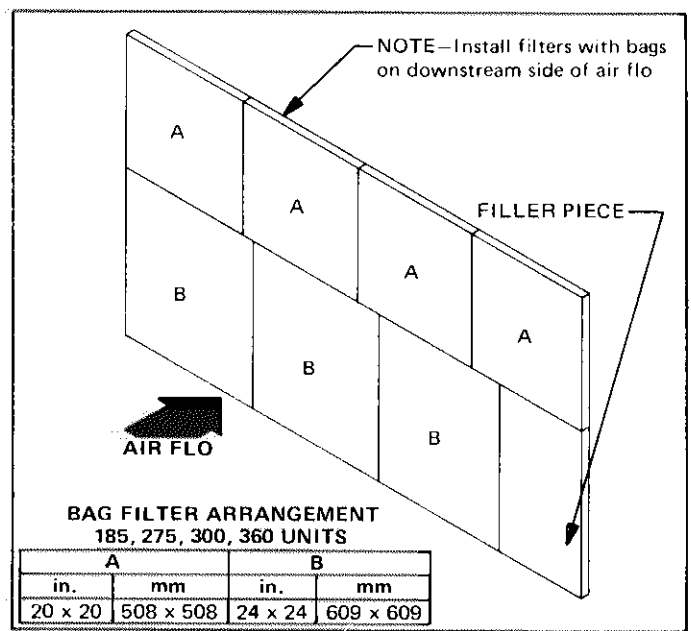
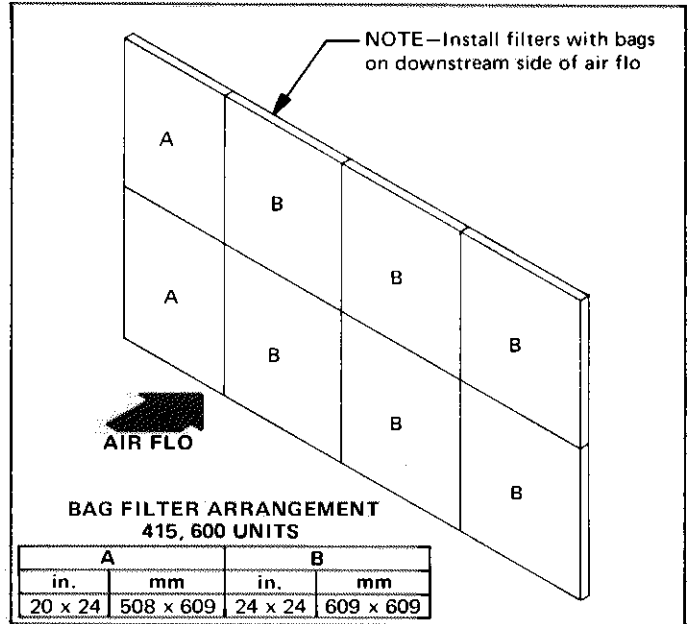

FIGURE 122
FIGURE 123
- e - Replace filter bag assemblies in unit. See Figure 122 (185, 275, 300, 360) or Figure 123 (415, 600) for arrangement.